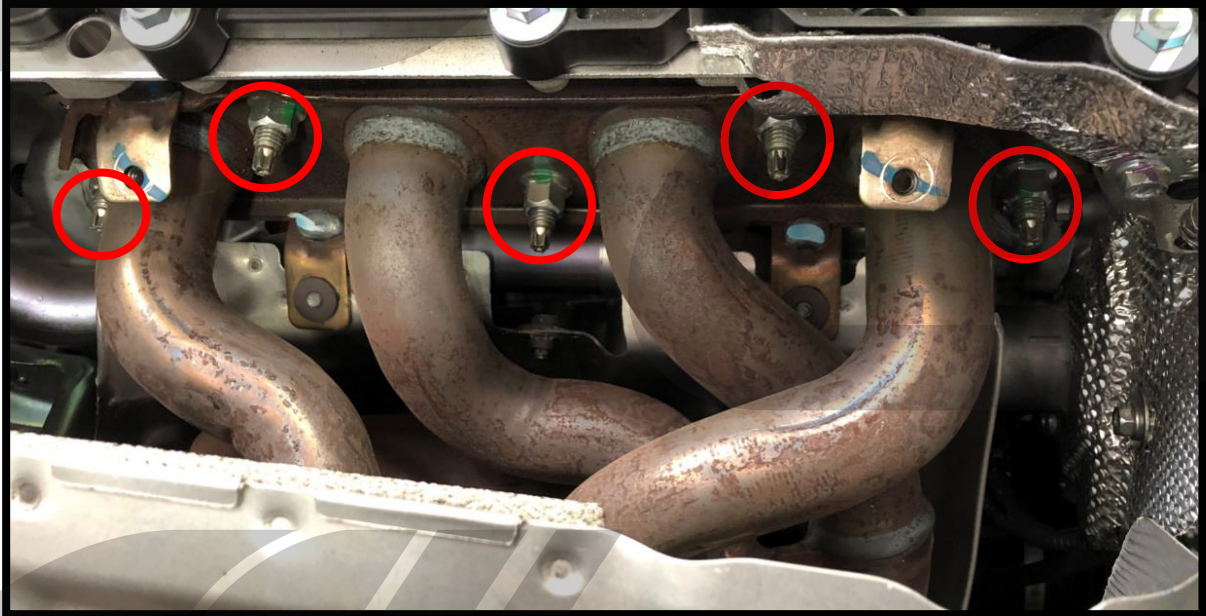

Figure 4c
- d) Back in the engine bay, remove the five 14mm nuts that attach the OEM header to the engine. Shown **circled in red** in **Figure 4c**.